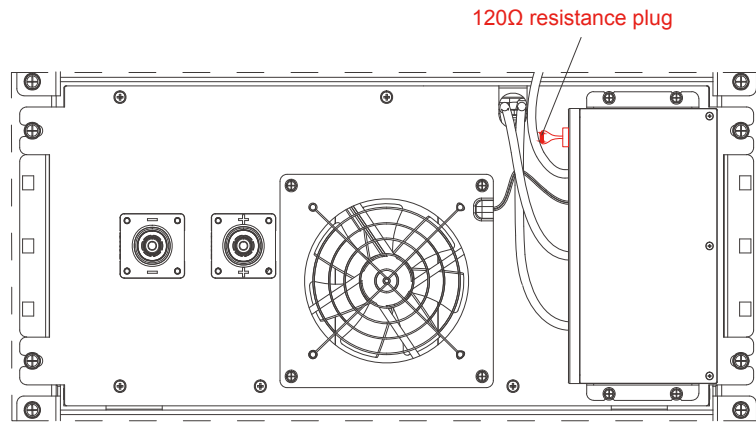

Figure 2.11
(7) The last battery box BMU output communication port has a 120Ω resistance plug (Figure 2.11).